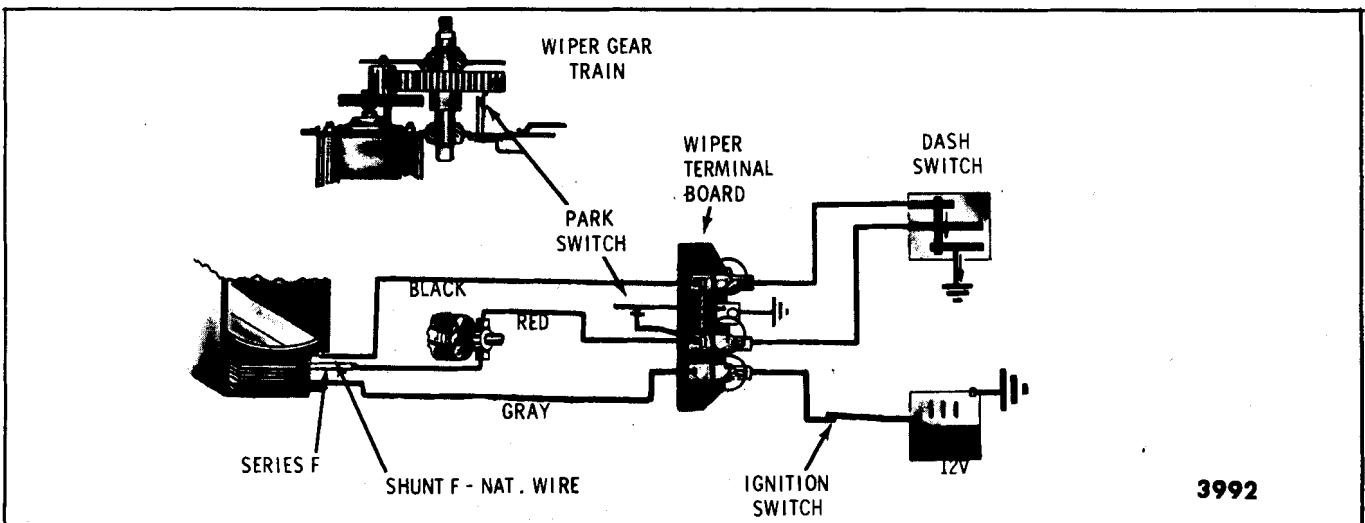

Fig. 2-2-"Lo" Speed Circuit
Turning the wiper switch to the "LO" speed position completes the circuits from the wiper terminals 1 and 3 to ground. Current then flows from the battery via wiper terminal No. 2 through the series field and divides; (1) part passes through the armature to ground via wiper terminal No. 1 to the wiper switch and (2) part passes through the shunt field to ground through wiper terminal No. 3 to the wiper switch (Fig. 2-2).